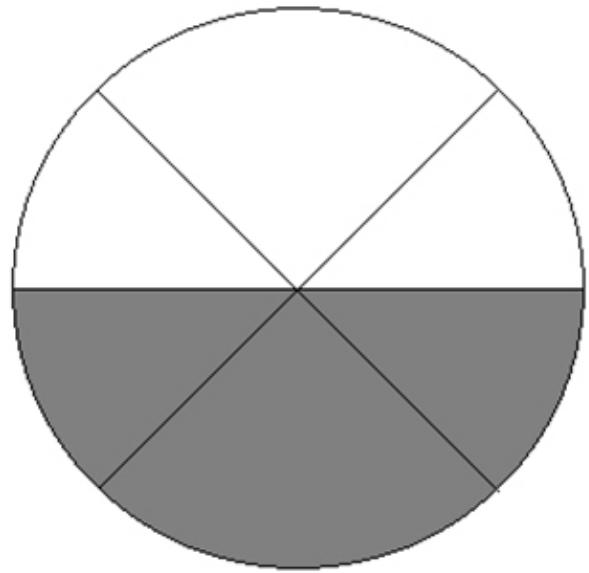

Fig.2
This principle is used by the refractometer in order to determine the refractive indices. In the refractometer light beams from different angles fall upon the surface, its refractive angles are always greater than 90° . A telescope is used to observe the emerging beam and a bright and dark image can be observed in the field of view in the telescope, appearing as distinct boundary line in between, as indicated in fig. 2. The boundary line between the brightness and the darkness is just the position of the critical angle.
At the same time the swingable mirror (3) swivels around the graduation centre. The values of refractive indices of different positions will be imaged on the screen (6) with the help of the mirror (10), the reading objective (9) and the paralleling prism (8) (as shown on the bottom part of fig. 2).